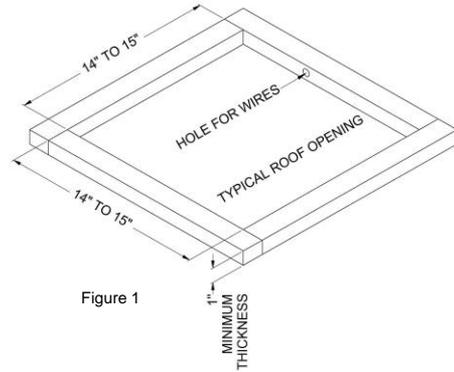

Figure 1
3. Examine the roof opening. If the opening is smaller than 14" x 14", the opening must be enlarged. If the opening exceeds 15" x 15", a mounting frame must be field fabricated to reduce the opening size (See Figure 1).
- B. If a roof vent opening is not used, a new opening (See Figure 1) will have to be cut into the vehicle roof. A matching opening will also have to be cut into the interior vehicle ceiling. Be careful when cutting the ceiling opening. If the ceiling opening is carpeted, snagging could occur. After the opening in the roof and interior ceiling are the correct size, a framed support structure must be provided between exterior roof top and interior ceiling. The reinforced framed structure must provide the following guidelines:
Airxcel's 48000 series requires that the spacing from the vehicle roof top to the interior ceiling be no less than 1". A typical support frame is shown in Figure 1. The frame must provide an opening to allow passage for the power supply wiring. Route the supply wiring through the frame at the same time the support frame is being installed.